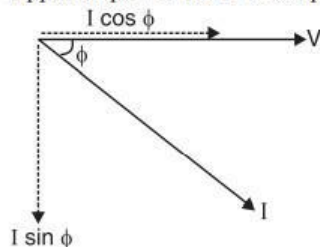
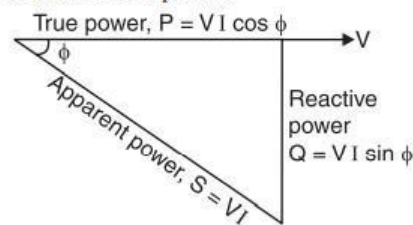

Fig. 12.6
Fig. 12.7
Consider an inductive circuit in which circuit current  $I$  lags behind the applied voltage  $V$  by  $\phi^\circ$ . The phasor diagram of the circuit is shown in Fig. 12.6. The current  $I$  can be resolved into two rectangular components viz.
**Power triangle.** If we multiply each of the current phasors in Fig. 12.6 by  $V$ , we get the power triangle shown in Fig. 12.7. This is a right-angled triangle and indicates the relation among apparent power, true power and reactive power. It reveals the following facts about the circuit :
The apparent power drawn by a circuit has two components *viz.* (i) true power and (ii) reactive power. True power component should be as large as possible because it is this component which does useful work in the circuit. This is possible only if the reactive power component is small. As seen from the power triangle in Fig. 12.7, the smaller the phase angle  $\phi$  (*i.e.* greater the p.f.  $\cos \phi$ ), the smaller is the reactive power component. Thus when  $\phi = 0^\circ$  (*i.e.*  $\cos \phi = 1$ ), the reactive power component is zero and the true power is \*\*equal to the apparent power. That means the whole of apparent power drawn by the circuit is being utilised by it. *Thus power factor of a circuit is a measure of its effectiveness in \*\*\*utilising the apparent power drawn by it.* The greater the power factor of a circuit, the greater is its ability to utilise the apparent power. Thus 0.5 p.f. (*i.e.* 50% p.f.) of a circuit means that it will utilise only 50% of the apparent power whereas 0.8 p.f. would mean 80% utilisation of apparent power. For this reason, we wish that the power factor of the circuit to be as near to 1 as possible.